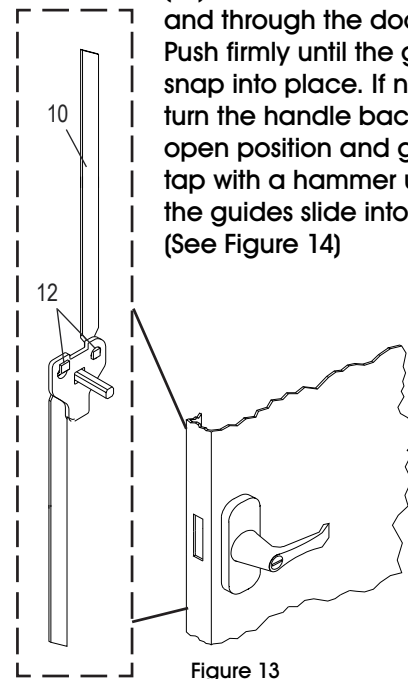

Figure 13
3. With the handle still in the open position, hook the lock bars (10) to the locking cam. Once in position, slowly rotate the door handle to the closed position so the lock bars protrude from the holes at the top and bottom of the door. (See Figure 13)